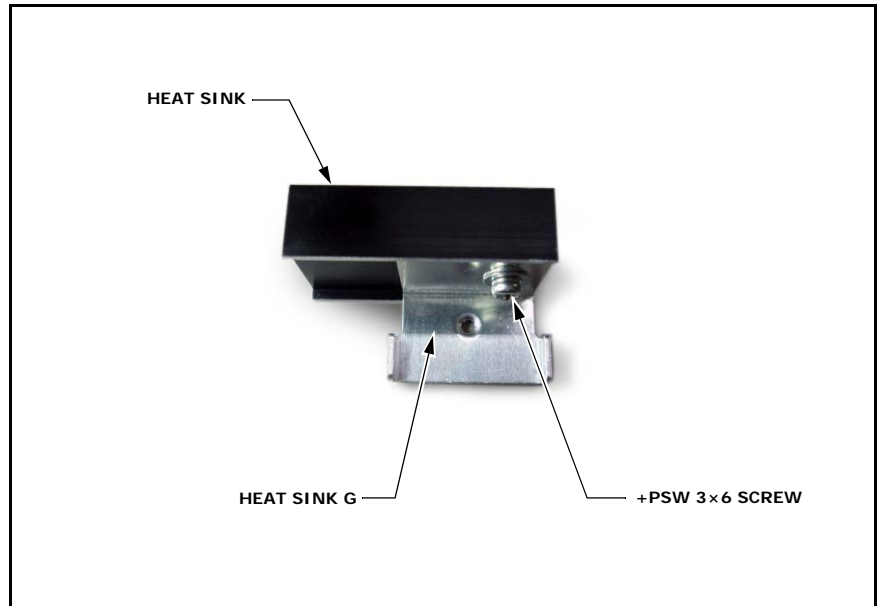

Figure 5
- a. Secure the new heat sink G (4-097-694-11) and new heat sink (2-677-850-01) with a new +PSW 3×6 screw. (See Figure 5.)